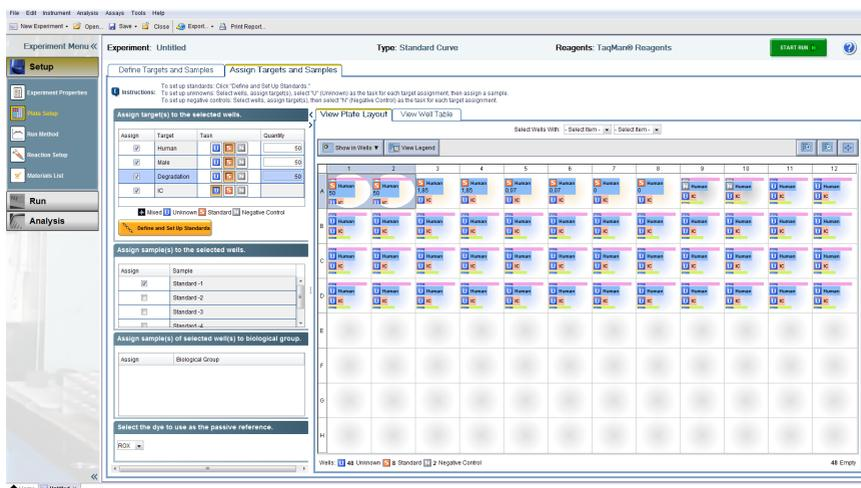

Figure 29. Entering the sample name and assigning the samples.
- Assign the samples to the plate layout by clicking on the wells and checking the appropriate box on the left panel (Figure 29).